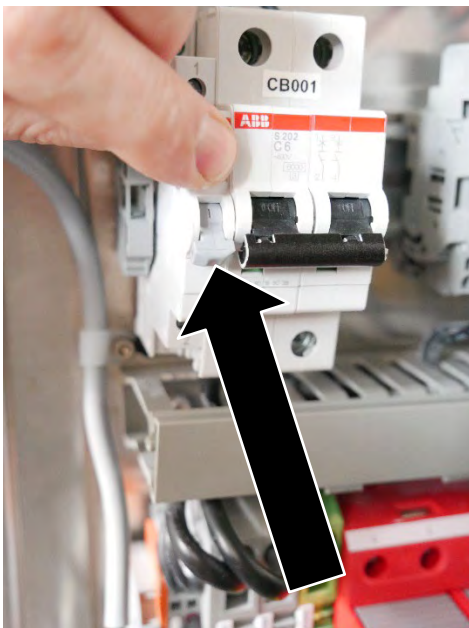

Figure 4: Switch position "UPS off"
The CHM 15k requires an installation area of 50 x 50 cm. It must be stable, firmly installed and mounted on an adequately sized concrete foundation. The inclination of the installation surface must not exceed 5 mm/m. Before installing the CHM 15k, holes must be drilled and dowels inserted in the concrete foundation (\varnothing 12 mm, 4 dowels are included in the delivery), in accordance with the drilling template (see Figure 4). It is important to pay attention to the opening direction of the exterior door to the operator's connection box.
- ⇒ Position the CHM 15k in the installation position (vertical) on the concrete foundation. It is important to pay attention to the position of the exterior door in relation to the operator's connection box (see Figure 4)